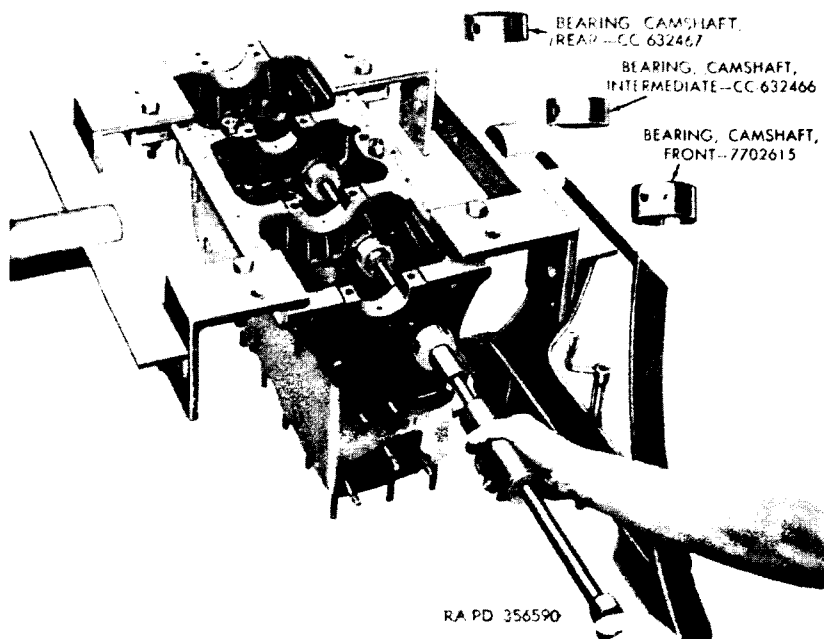

Figure 87. Installing camshaft bearings with remover and installer 41-R-2386.
- (1) Mount the cylinder block in an engine stand and install the correct size adapter for camshaft bearing remover and installer 41-R-2386 (fig. 87) in each of the two intermediate bores.